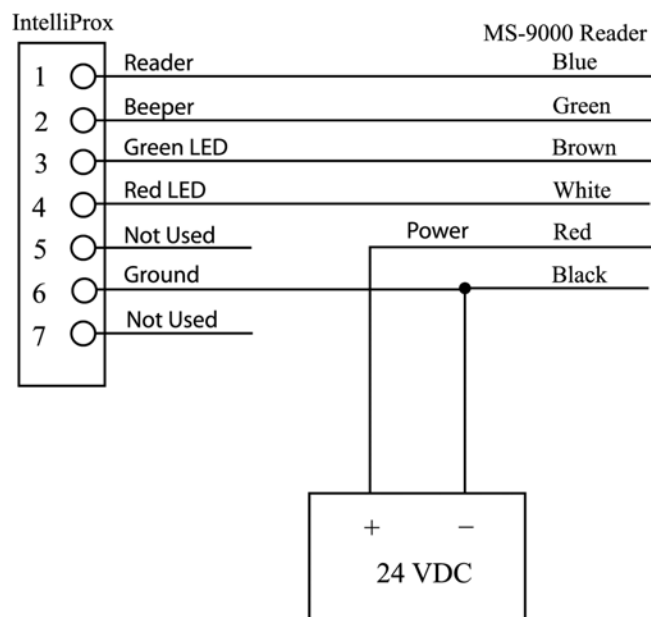

Figure 6: IntelliProx Connection to 24 VDC Power
- TB2, pin 13 on the IntelliProx (see Figure 6 on page 7)